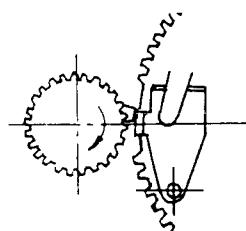

Fig. 3
2. As playing proceeds, the trip slide moves toward the center of the turntable following the movement of the tonearm as shown in Fig. 3.